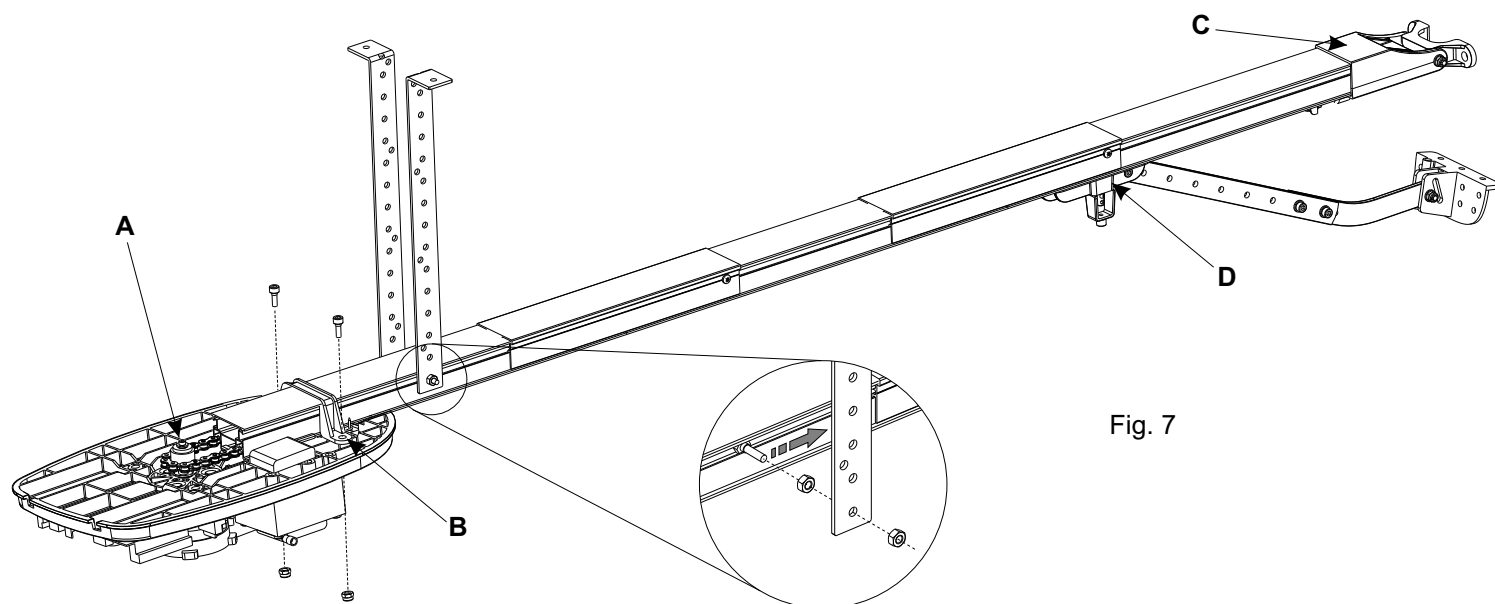

Fig. 7
Note: In Fig.4 a pair of screws are inserted into the loopholes which will be used for fixing the Corona S operator to the ceiling with the special brackets (See also Fig. 7).
- Make sure that the chain has been correctly mounted on the pinion of the Corona S body (Fig. 7 - A).
- Place the guide on the stop of the Corona S body and fix it with the special bracket (Fig. 7 - B).
- Mount the front fixation support on the other end of the guide (Fig. 7 - C)
IMPORTANT: Keep well lubricated the chain and the sliding device (Fig. 7 - D).